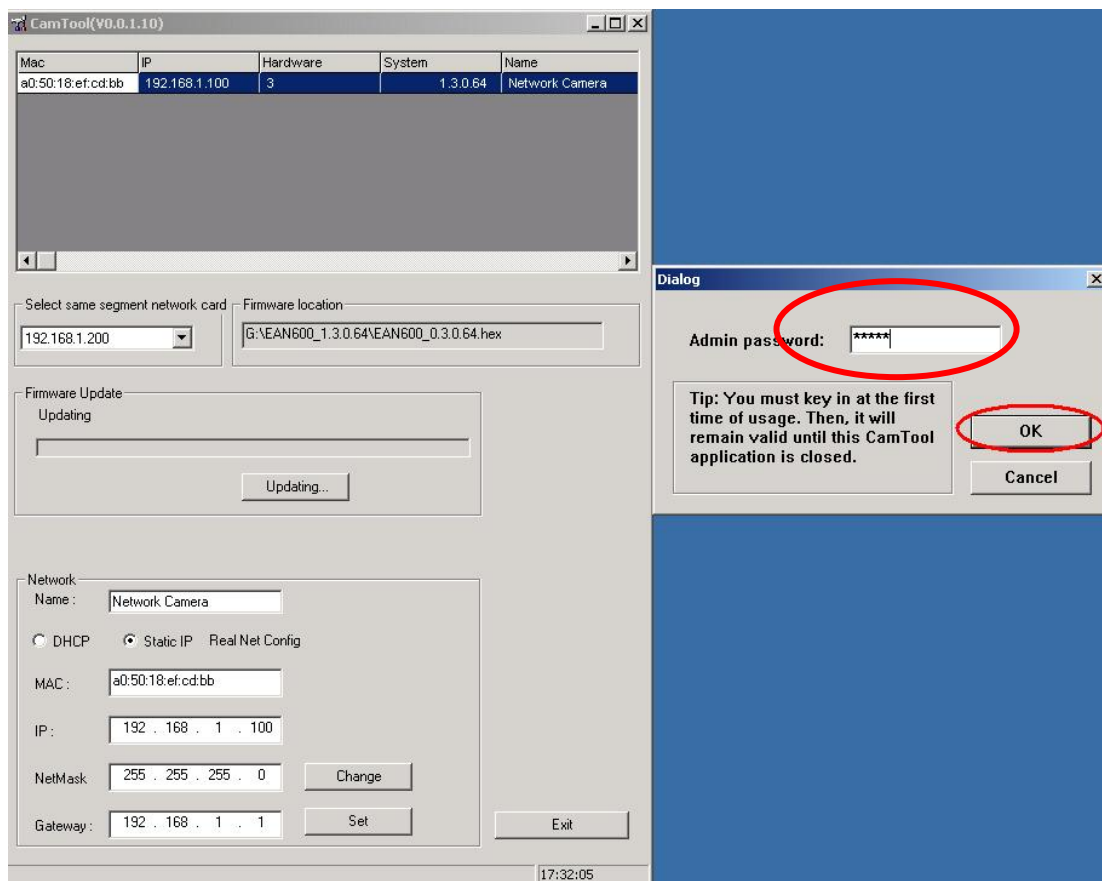

Figure 7
Input the password (Our Factory default is **root** or **admin**, Please refer to figure 7). After you enter password, and wait the EAN600 checking password.
2. System ask the enter code for upgrading. (Figure 7)